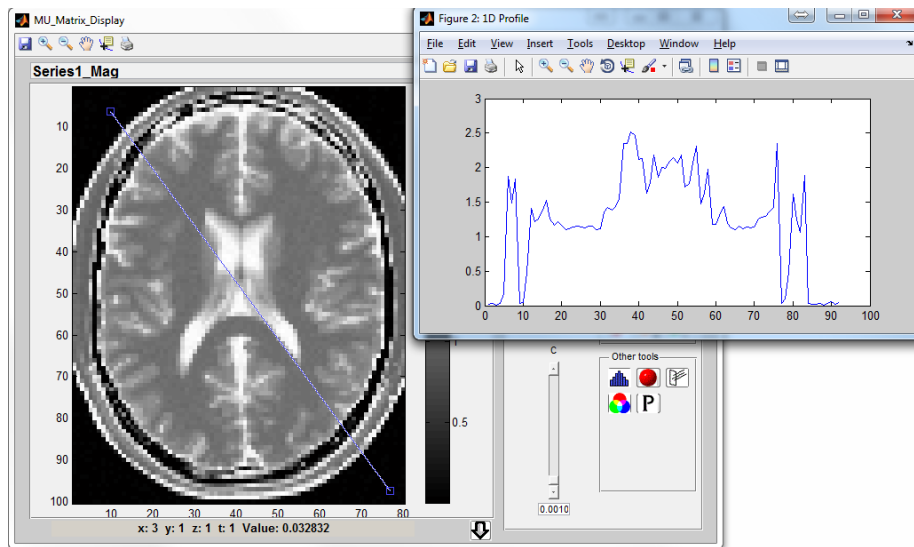

Figure 6.11: An Example of 1D Profile. The user can relocate and resize the profile checking line on the image.
-  : Plot and update a profile curve along a line (Figure 6.11)